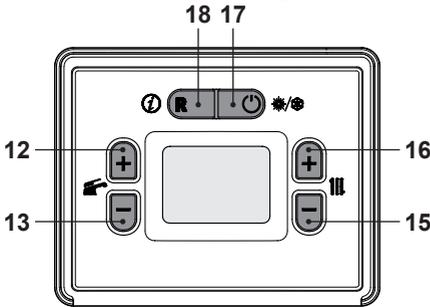

Figure 5.41
- Use 15 or 16 (Figure 5.41) to change the value of parameter A02:
- Press 12 or 13 (Figure 5.41) to confirm the value entered and return to the list of parameters (Figure 5.42).
- Press 17 (Figure 5.41) to exit “programming mode”.